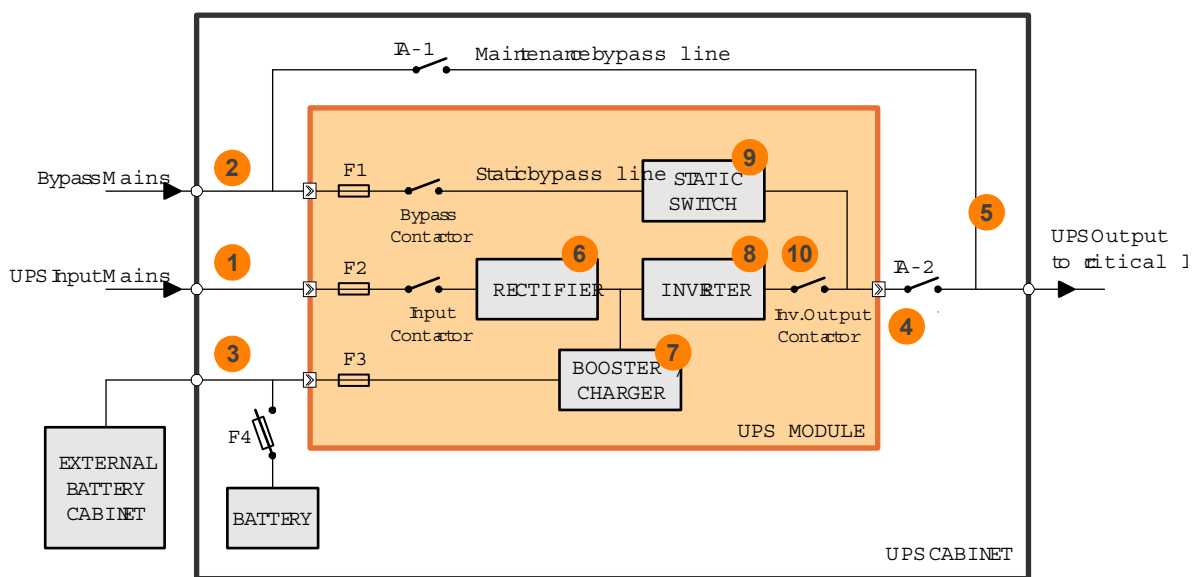

Figure 2.3 PowerWAVE 9000DPA module
The UPS input mains and bypass mains are connected to an input power terminal block located in the lower part of the UPS cabinet. Both inputs require a 3ph+N feed but, although the two inputs are shown as being separate in Figure 2.3, in a standard installation the input mains terminals (1) and bypass mains terminals (2) are usually linked at the cabinet's input power terminal blocks so only one mains supply feed is required.